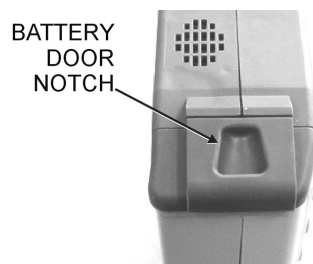

Figure 4-1. Battery Access Door Notch
1. With the MS2721B laying flat, face up, on a stable surface, locate the battery access door, as illustrated in Figure 4-1.